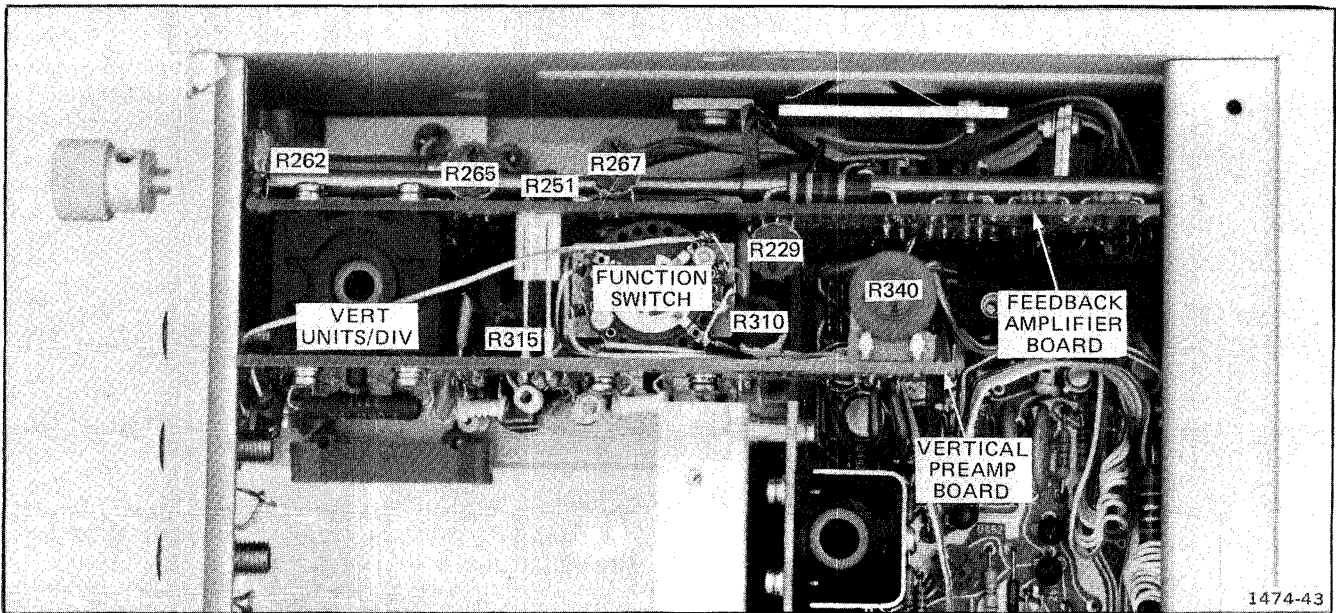

Fig. 5-4. Location of adjustments on the Vertical Preamp and Feedback Amplifier board.
d. ADJUST—R340, Vertical Preamp Balance, for no spot movement while switching between 5 mA and 5 pA. See Fig. 5-4 for location of R340.
b. ADJUST—R315, Vertical Looping, for minimum vertical trace separation (looping). See Fig. 5-4 for location of R315.
c. ADJUST—R267, X10 CMRR (see Fig. 5-4 for location), for no vertical deflection of the horizontal trace.